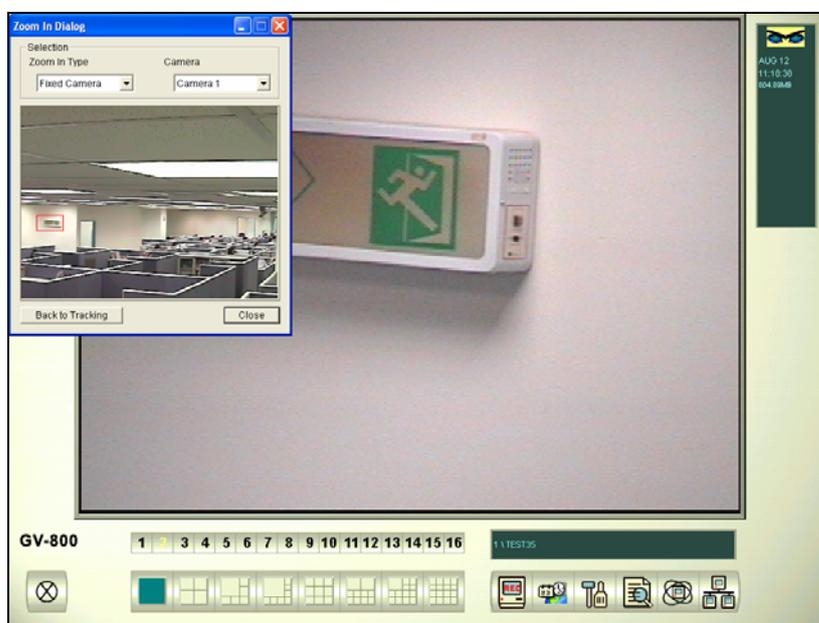

Figure 1-76 The outlined area in the Dialog window is magnified on the main screen
1. Click the **Configure** button (No. 14, Figure 1-2), point to **Video Analysis**, select **Object Tracking Application**, and click **Object Tracking View** to open the Zoom in Dialog window, overlapping on the main screen (Figure 1-76).